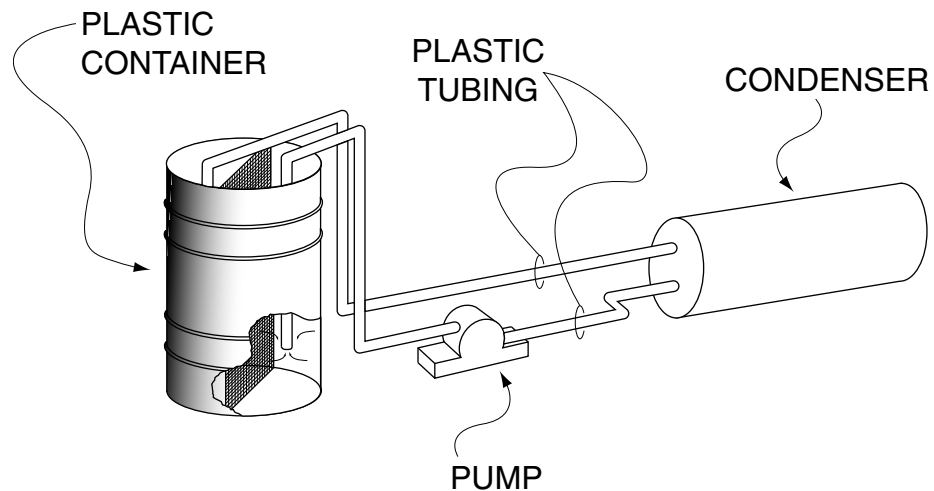

FIGURE 1
- B. When condenser tubes have hard lime or iron scale, they may be cleaned with an acid solution (the procedure is as sketched in figure 1). Caution: always wear goggles and rubber gloves when using an acid solution. The pump must be designed for acid solutions (see figure 2). Use of plastic pipe or tubing is recommended. Warm solutions will work best, but do not heat above a warm temperature.